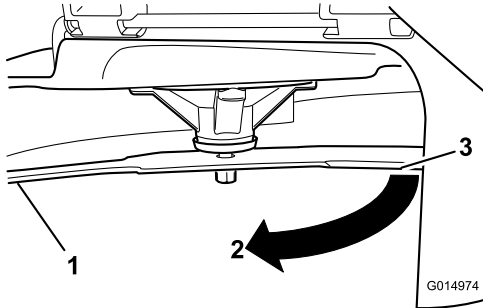

Figure 55
3. Second measured distance between blade and surface (B)
4. Rotate the same blade 180 degrees so that the opposing cutting edge is now in the same position (Figure 55).